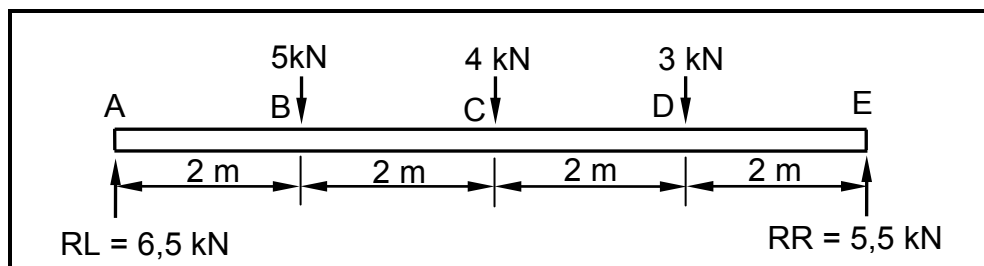

FIGURE 5.1
5.1 A beam with a length of 8 m is subjected to three point loads as shown in the space diagram in FIGURE 5.1 below.